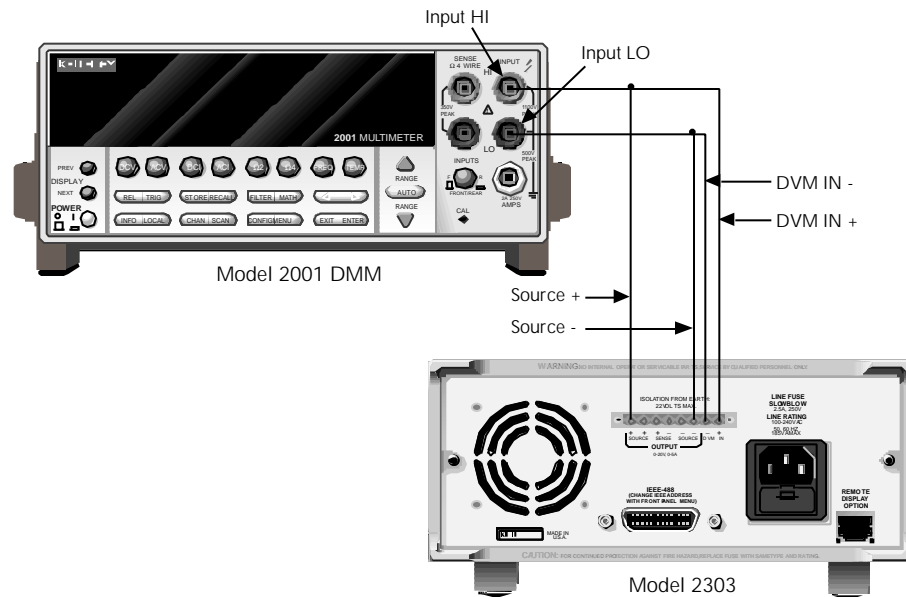

Figure 1-6
1. With the power off, connect the Model 2303 DVM IN terminals to OUTPUT SOURCE terminals and the digital multimeter, as shown in Figure 1-6. Be sure to observe proper polarity (DVM IN + to SOURCE + and DMM INPUT HI; DVM IN - to SOURCE - and DMM INPUT LO).